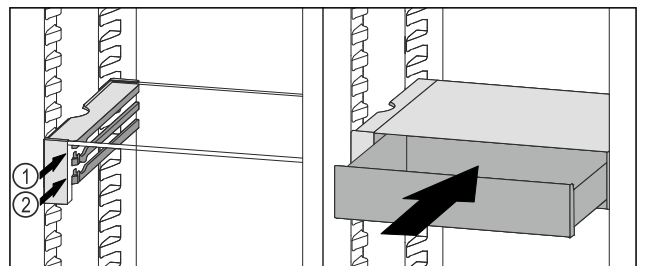

Fig. 92
- Place the VarioSafe drawer behind the stoppers on desired rib Fig. 92 (1) or Fig. 92 (2).